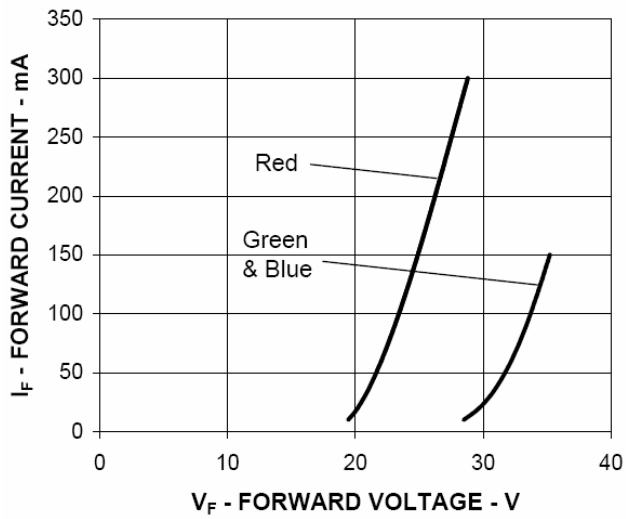

Figure 3. Forward current vs. forward voltage
4. Dynamic resistance is the inverse slope of the forward current vs. forward voltage characteristic as in Figure 3.